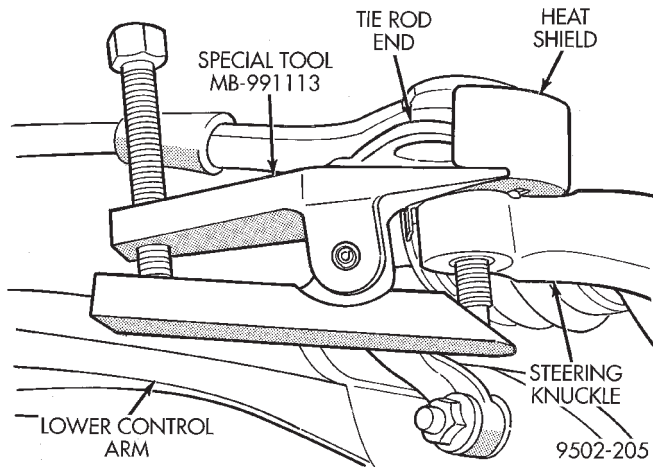

Fig. 8 Tie Rod End Removal From Steering Knuckle
(7) Remove both tie rod end studs, from the steering knuckles, using Remover, Special Tool MB-991113 (Fig. 8).